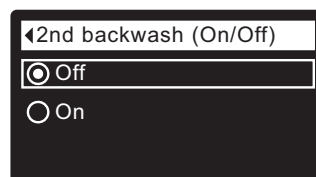

FIG. 75
- 8d. **Second backwash (On/Off):** If the desired option already has a dot next to it (See Figure 75), go to Step 9. Otherwise, press the DOWN (▼) or UP (▲) buttons to scroll to the other option, then press SELECT (O) to choose it. Setting this feature On adds a second backwash and rinse at the beginning of the recharge cycle. Default is Off. Set this feature On if your water supply contains a lot of sediment or iron.